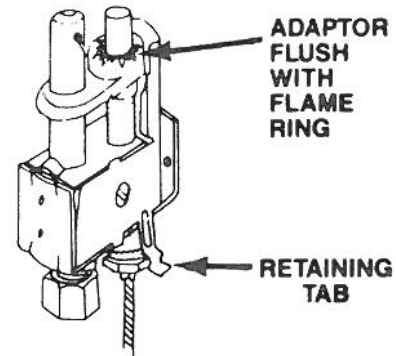

FIGURE 2
3. Push thermopile into PG9 pilot until the adaptor is flush with top of the flame ring. **NOTE:** For proper operation adaptor **MUST BE** flush. See figure 2.